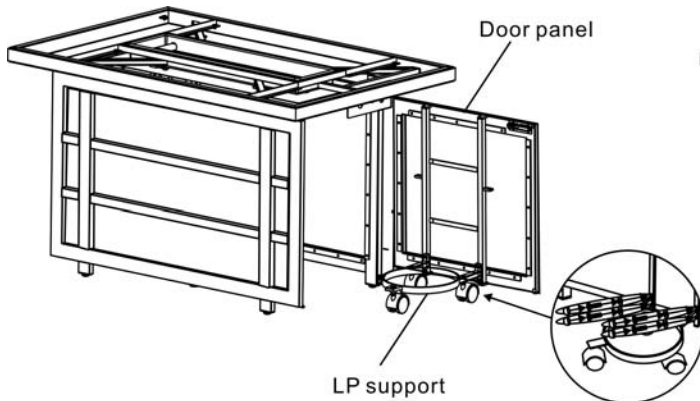
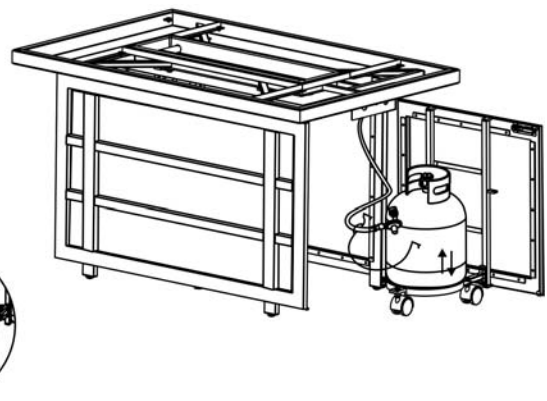

Figure 6a
Figure 6b
6. Attach the LP support to the door panel by using four 1/4"x15 mm bolts and washers as shown in Figure 6a. Do not over tighten. Place propane tank onto the LP support as shown in Figure 6b.